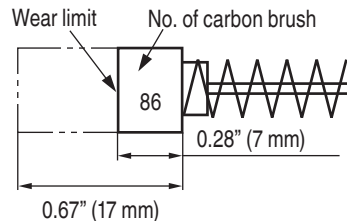

Fig. 10
5. Inspecting the carbon brushes (Fig. 10)
Use metabo HPT carbon brush No. 86 indicated in Fig. 10.